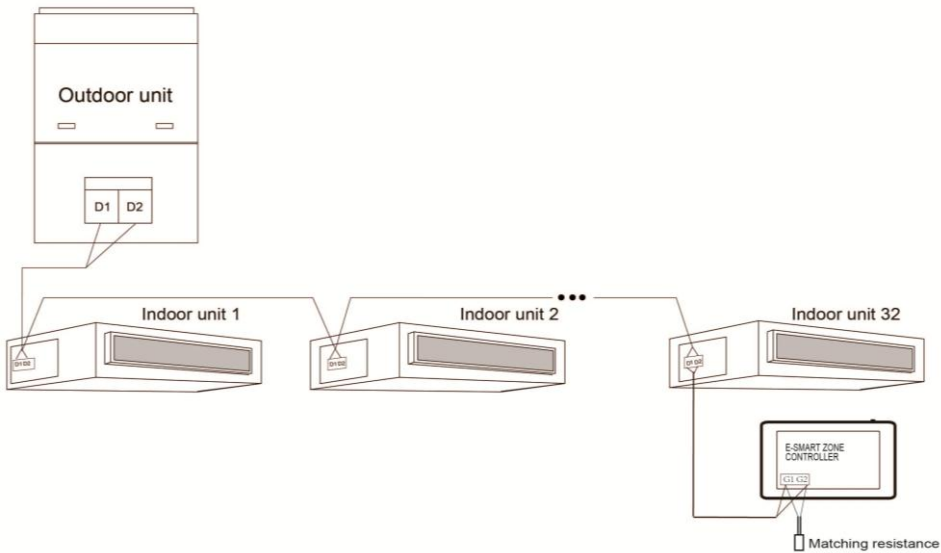

Fig.1.4 Centralized Controller Connected with IDU Network
- (1) The smart centralized controller is applicable to multi VRF units, connectable with IDU network, ODU network or mode converter network. One centralized controller can control up to 16 sets of outdoor unit system and up to 32 sets of indoor unit.
- (2) If the centralized controller is to be connected with the IDU network, connect according to Fig.1.4. The controller can connect with any one indoor unit in series, that is, connect the controller's G1 and G2 ports with the D1 and D2 ports correspondingly with communication wires. When the controller is connected with the terminal unit of IDU network, a matching resistance needs to be added with the communication wires at the G1 and G2 ports.